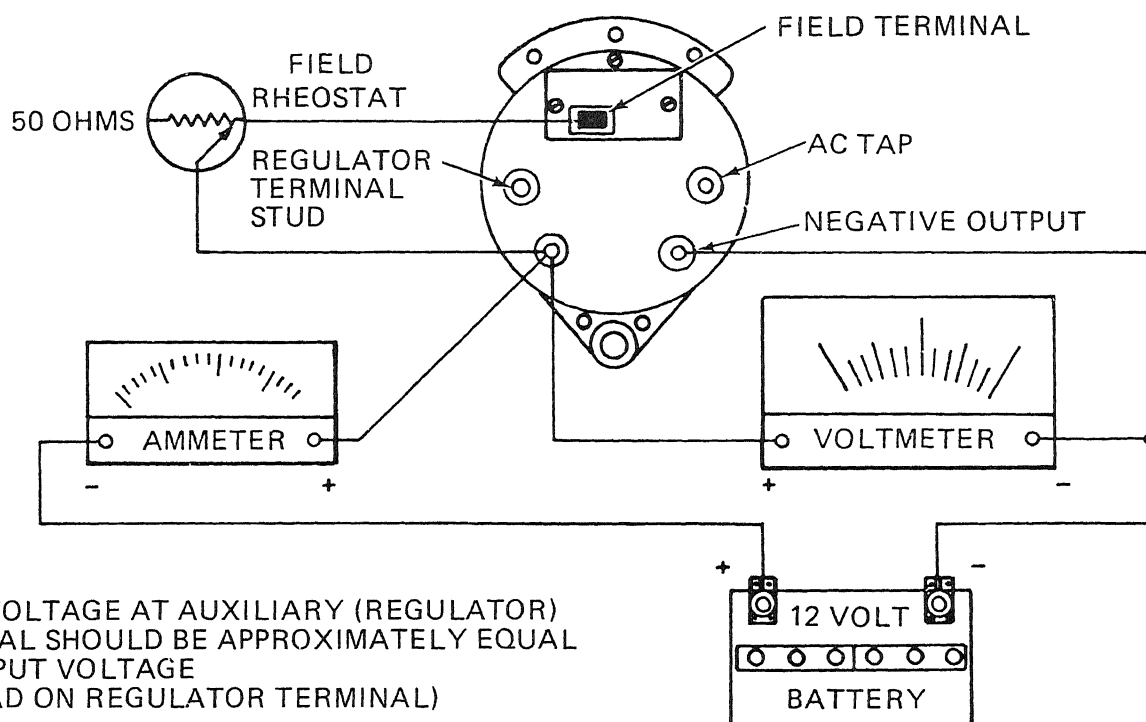

Figure 5-28.31. Alternator Performance Test
- (1) Mount alternator in test stand capable of providing 3000 to 4000 alternator shaft RPM.
- (2) Connect circuit leads as indicated in figure 5-28.31.
- (3) Switch ammeter to show possible discharge during hook-up, reverse meter for output test.
- (4) Set field rheostat to maximum resistance before connecting to system.